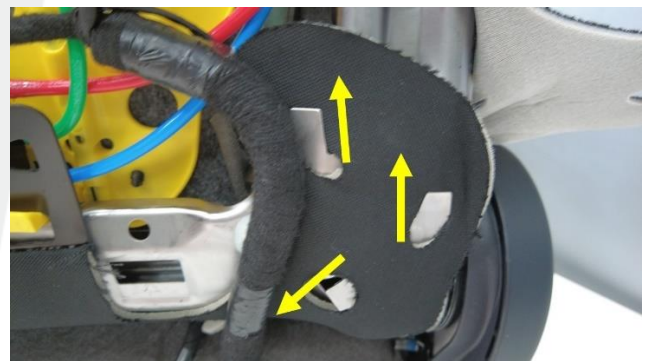

**Figure 11**
11. Release the tabs that attach the lower portion of the power lumbar assembly to the seat back frame (Figure 11).